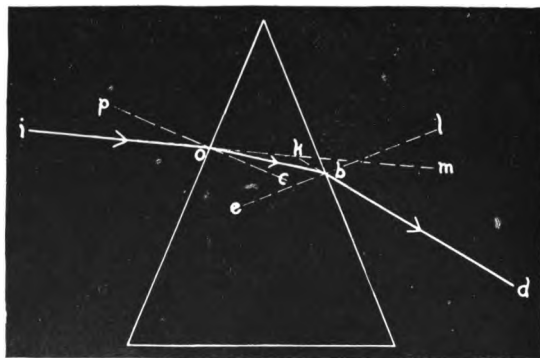

FIG. 83.—REFRACTION BY A PRISM
**115. Passage of Light through a Prism.** Figure 83 represents a section of a prism of glass. The ray  $io$  on entering the glass is bent towards the normal  $po c$ , along  $ob$ . Upon emerging, however, it is bent away from the normal  $l b e$ . The ray as it leaves the prism is not parallel to the entering ray, as in the case of plate glass, but it passes out in quite a different direction, and goes along  $bd$ . The angle of deviation is  $b k m$ .